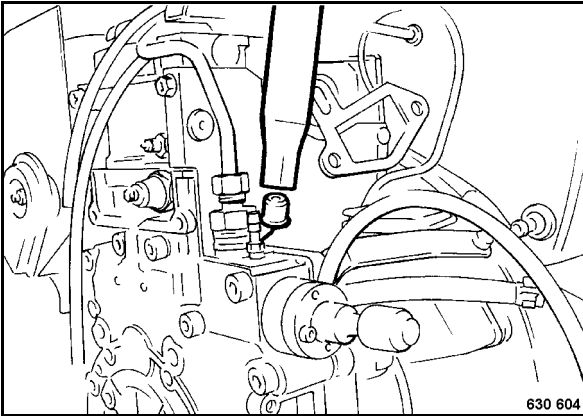

Fig. 79
- Remove the crankcase ventilation socket (Fig. 79).